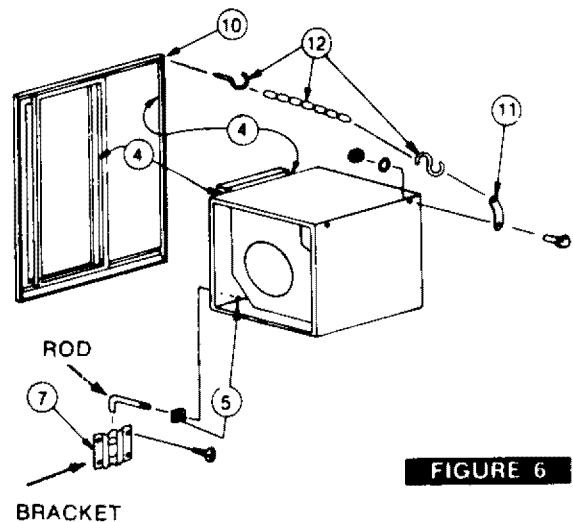

FIGURE 6
8. **TURN ADJUSTMENT NUTS TO LEVEL THE COOLER.** (Figure 6, Key 5)